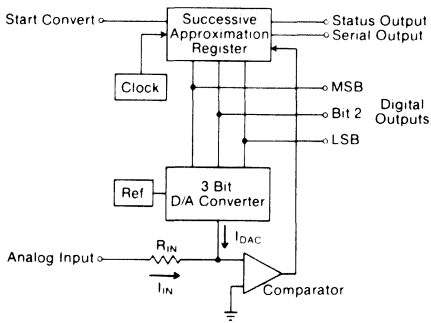

Figure 40. Block diagram of a 3 bit successive approximation A/D converter. This technique is very similar to weighing an unknown on a chemist's balance.
Virtually all successive approximation (SA) analog to digital converters are voltage input devices, and the conversion process is remarkably similar to finding the weight of an unknown object using a chemist's balance and a set of binarily weighted known weights (e.g., $\frac{1}{2}$ lb., $\frac{1}{4}$ lb., $\frac{1}{8}$ lb., $\frac{1}{16}$ lb. (= 1 oz.), $\frac{1}{2}$ oz., $\frac{1}{4}$ oz., etc.). All of the A/D converters presently manufactured by Micro Networks are successive approximation types. Figure 40 shows a simplified block diagram for a 3 bit, 0 to +10V successive approximation A/D. Figure 41 is its timing diagram. The circuit consists of a block of controlling logic and flip flops known as a successive approximation register (SAR), a current output D/A converter with reference, a clock, and a comparator. The outputs of the SAR's four flip flops act as both the direct (parallel) data outputs of the converter and the digital drive for the internal D/A converter. When the appropriate signal is applied to the converter's Start Convert input, the Status output rises to a "1" indicating that the converter is in the process of performing a conversion and that digital output data is not valid. At the same instant, the digital outputs of the SAR all go to "0" except for the MSB which is set to a "1". In this state (called the reset state), the digital output of the A/D is 100, and the current (IDAC) coming out of the internal D/A is the MSB current.
Figure 41. Timing diagram for the 3 bit A/D of Figure 40. After a conversion has been initiated, each output bit is set to its final value on successive rising clock edges.